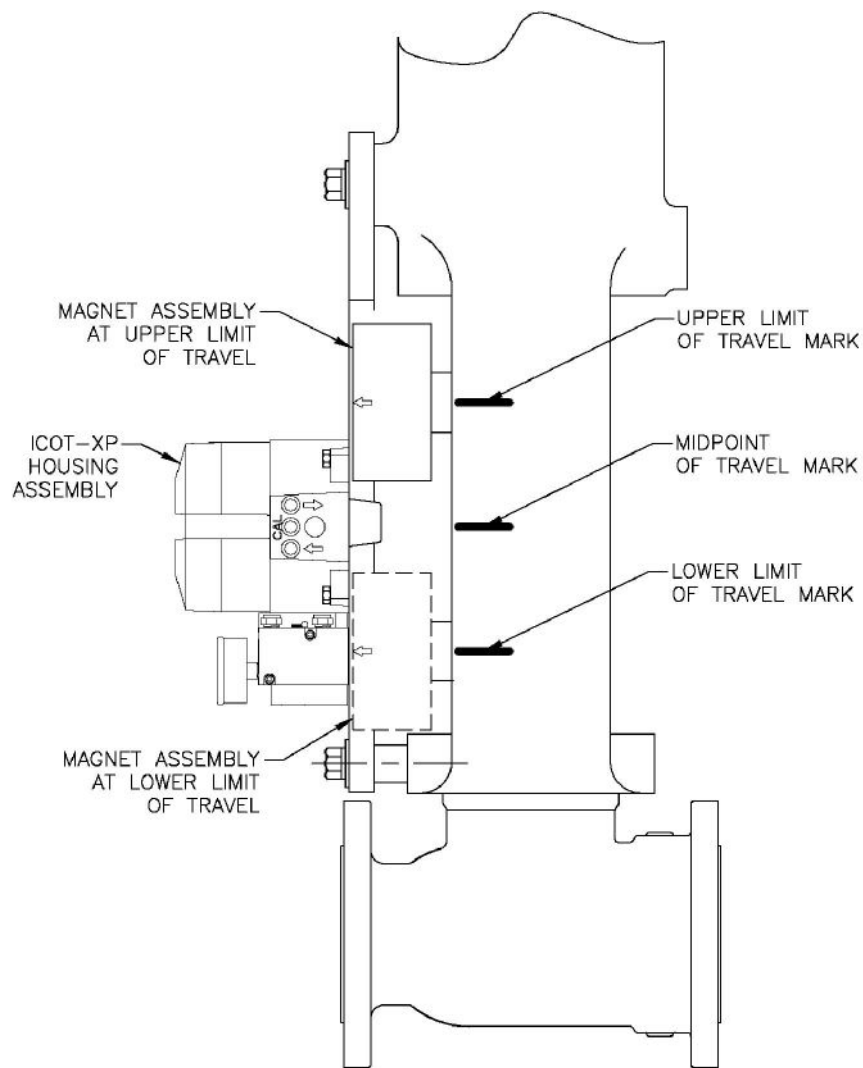

Figure 3-5
4. Lastly, mount the positioner to the bracket so that the positioner sensor (nose) of the ICoT lines up with the midpoint mark. (See Figure 3-5).